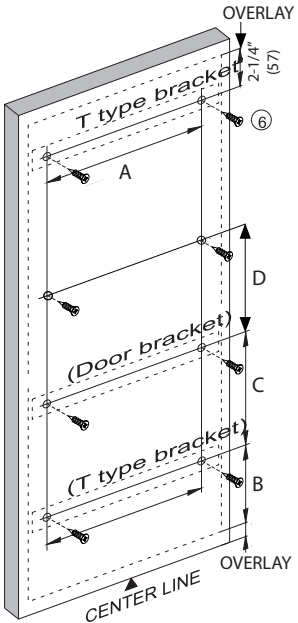

fig. 9
- 11) Refer to figure 9. The first step is to calculate overlay. Measure the door and then measure the cabinet opening. $\text{Overlay} = \text{door width} - \text{cabinet opening} \div 2$. For example; the door is $12\frac{1}{2}$ " wide, the opening is 12". $12\frac{1}{2} - 12 = \frac{1}{2}$ ", then divide by 2. The overlay is $\frac{1}{4}$ ".
- 13) At this point, lay your door on a flat surface and mark 6 or 8 pilot hole locations based on figure 9. Dimension "B" for face frame cabinet is $4\frac{1}{4}$ " [108mm]. See the table for dimensions "C" and "D". Use an $\frac{1}{8}$ " drill bit pre-drill pilot holes.